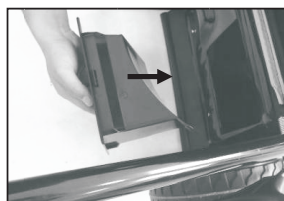
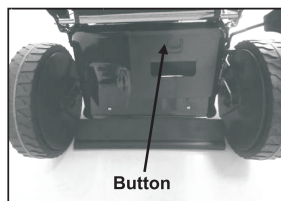

Fig.6A
Fig.6B
2. Push the mulching wedge into the deck. Lock the mulching wedge with the button on the opening on the deck. (Fig.6A/Fig.6B)